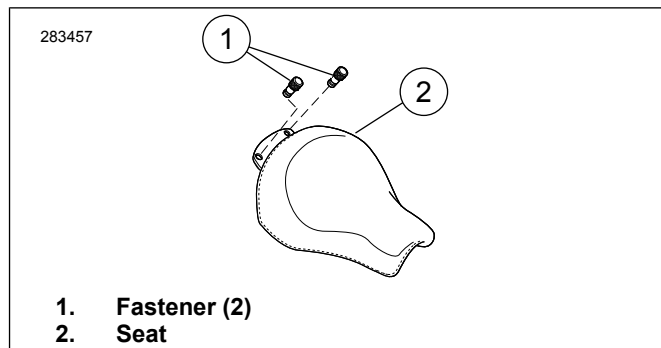

Figure 3. Solo Seat (typical)
- a. Figure 3 Slide sole seat (2) into position until front tab engages frame and rear of seat locales over mounting studs.
- b. Install seat mounting nuts (1) onto studs. Tighten.